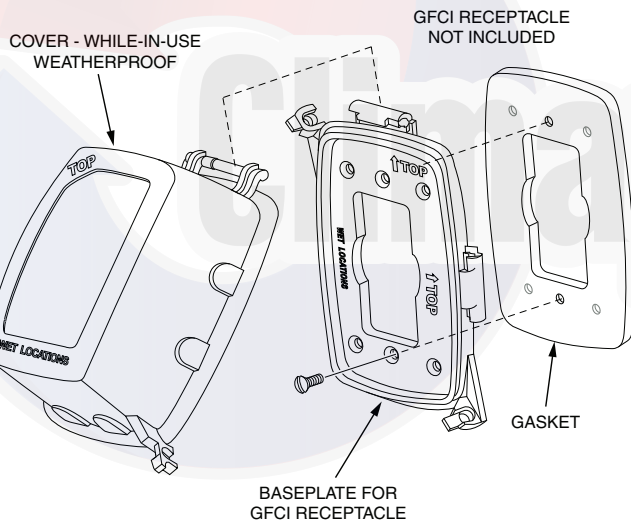

Fig. 15 — Weatherproof Cover Installation
5. Mount the weatherproof cover to the backing plate as shown in Fig. 15.